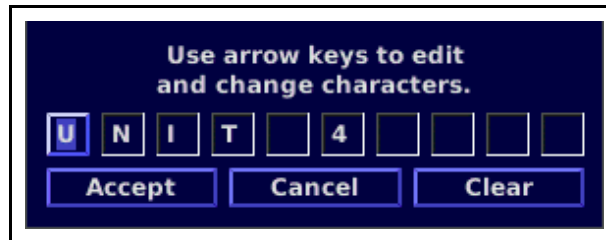

Figure 5-3 Unit Name Dialog Box
- ❑ **Display Unit Name:** This selection is used to display the name of the CMN-41L unit. The displayed information changes, depending on the name entered into the Unit Name dialog box. See Figure 5-3 on page 124.